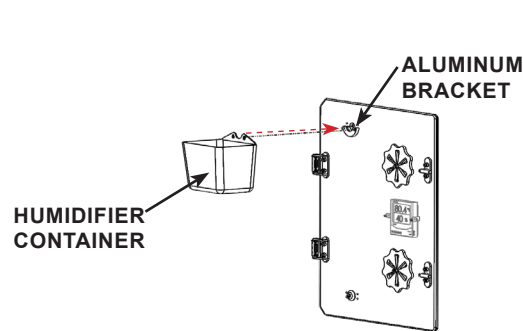

FIGURE 3.2 - Humidifier
**STEP 1:** Install the humidifier container using the keyhole slots and exposed screw heads. See FIGURE 3.2